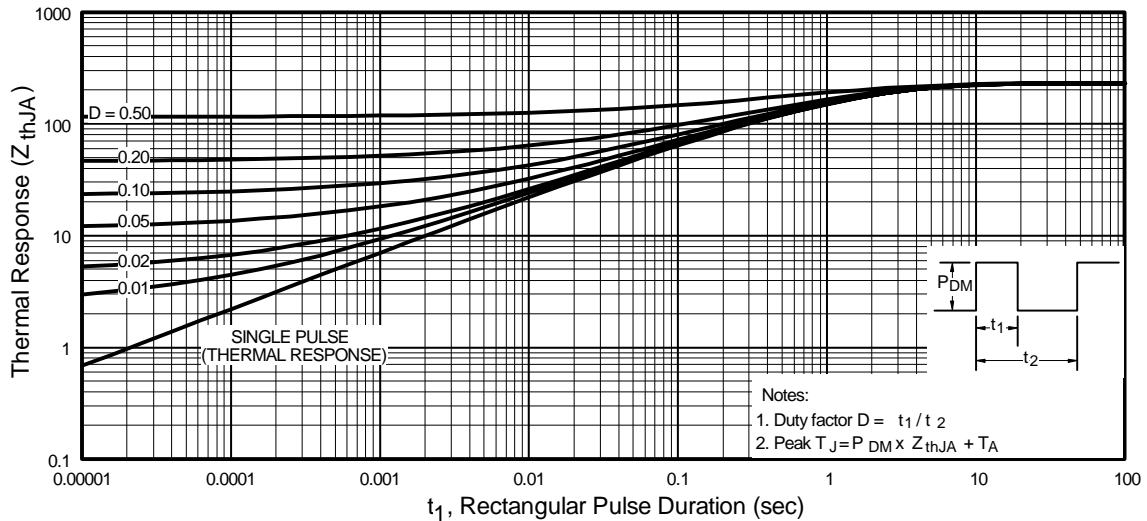

Fig 11. Maximum Effective Transient Thermal Impedance, Junction-to-Ambient
- ① Repetitive rating; pulse width limited by max. junction temperature. (See fig. 11)
- ② I_{SD} ≤ -0.60A, di/dt ≤ 110A/μs, V_{DD} ≤ V_{(BR)DSS}, T_J ≤ 150°C
- ③ Pulse width ≤ 300μs; duty cycle ≤ 2%.
- ④ Surface mounted on FR-4 board, t ≤ 5sec.